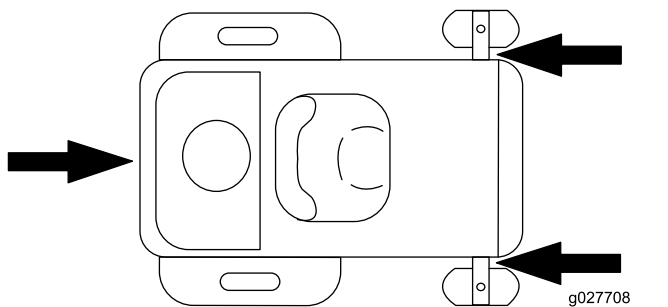

Figure 21
5. Tie down the machine near the front caster wheels and the rear bumper (Figure 21).